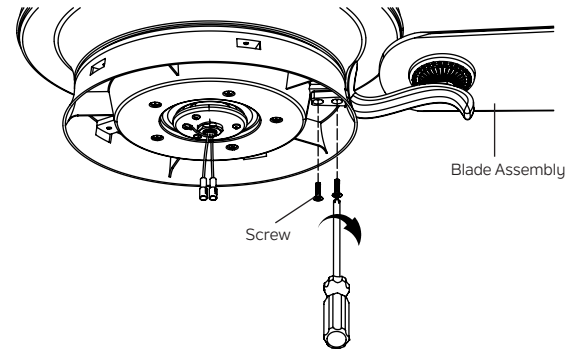

Fig. 21
**Step 2.** Slide the blade assemblies into the holes on the flywheel and securely tighten the with the screws from the hardware pack as shown. (Fig.21)